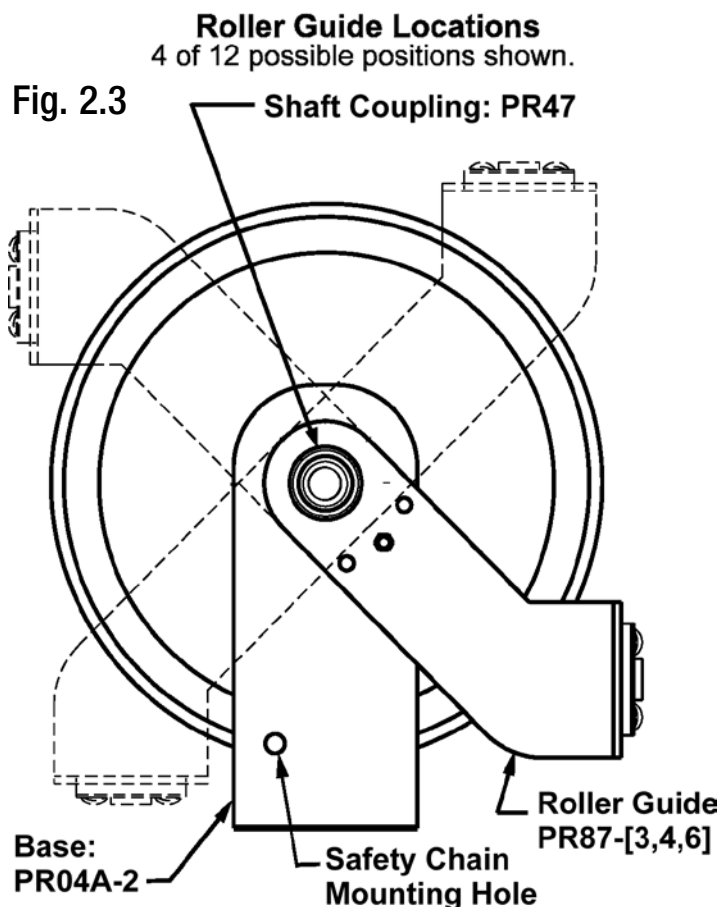

Fig. 2.3
2.2.1.6 A safety chain or cable is recommended for all overhead installations. Attach the safety chain using the 0.39 hole provided in the base. (See figure 2.3 on Page 6)